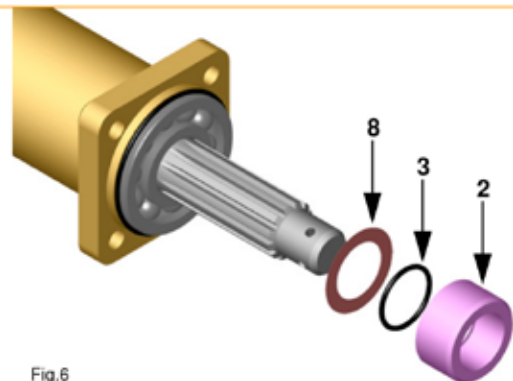

Fig.6
- Slip the shim (Pos.8, Fig.1), the O-ring (Pos.3, Fig.1) and the spacer (Pos.2, Fig.1) on the axle shaft as shown in the picture Fig.6.